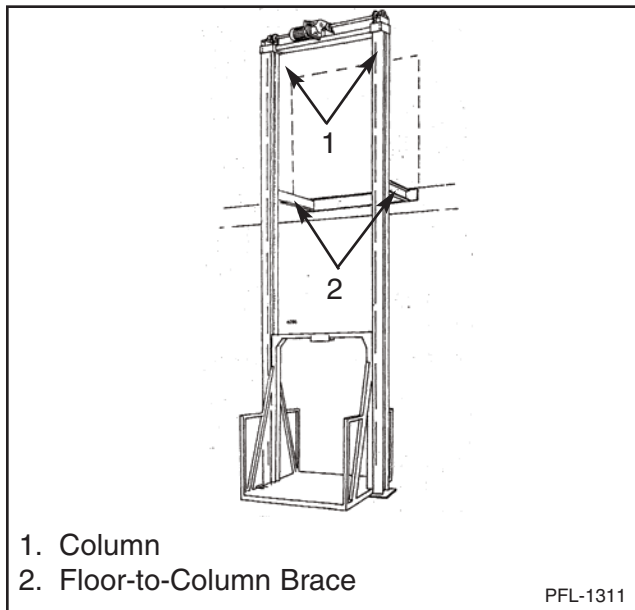

Figure 15
- Plumb both columns in both directions using plumb bobs or level. Recheck spacing and lag or tack weld floor-to-column braces. Make sure there is no column twist. See Figure 15.